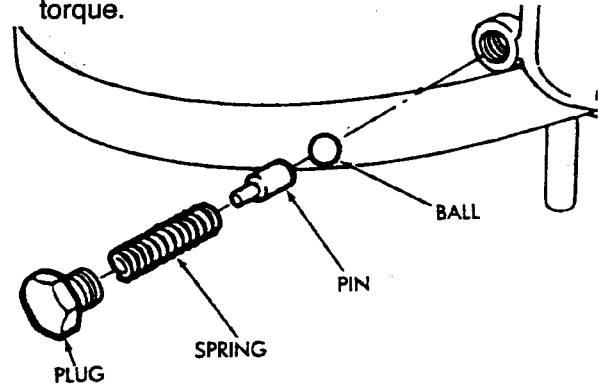

Fig. 4-47 Install Detent Ball, Pin, Spring And Plug
37. Install the detent ball, pin spring and plug (Fig. 4-47). Tighten plug to 22 ft-lbs (30 N·m) torque.